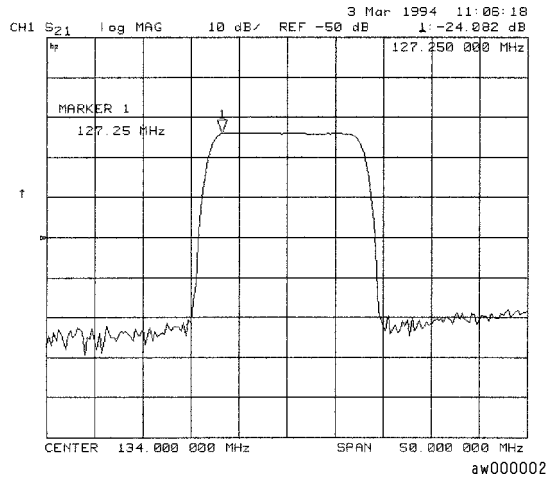

Figure 4-2. Example Magnitude Response Measurement Results
- 6** To locate the maximum amplitude of the device response, as shown in **Figure 4-2**, press: